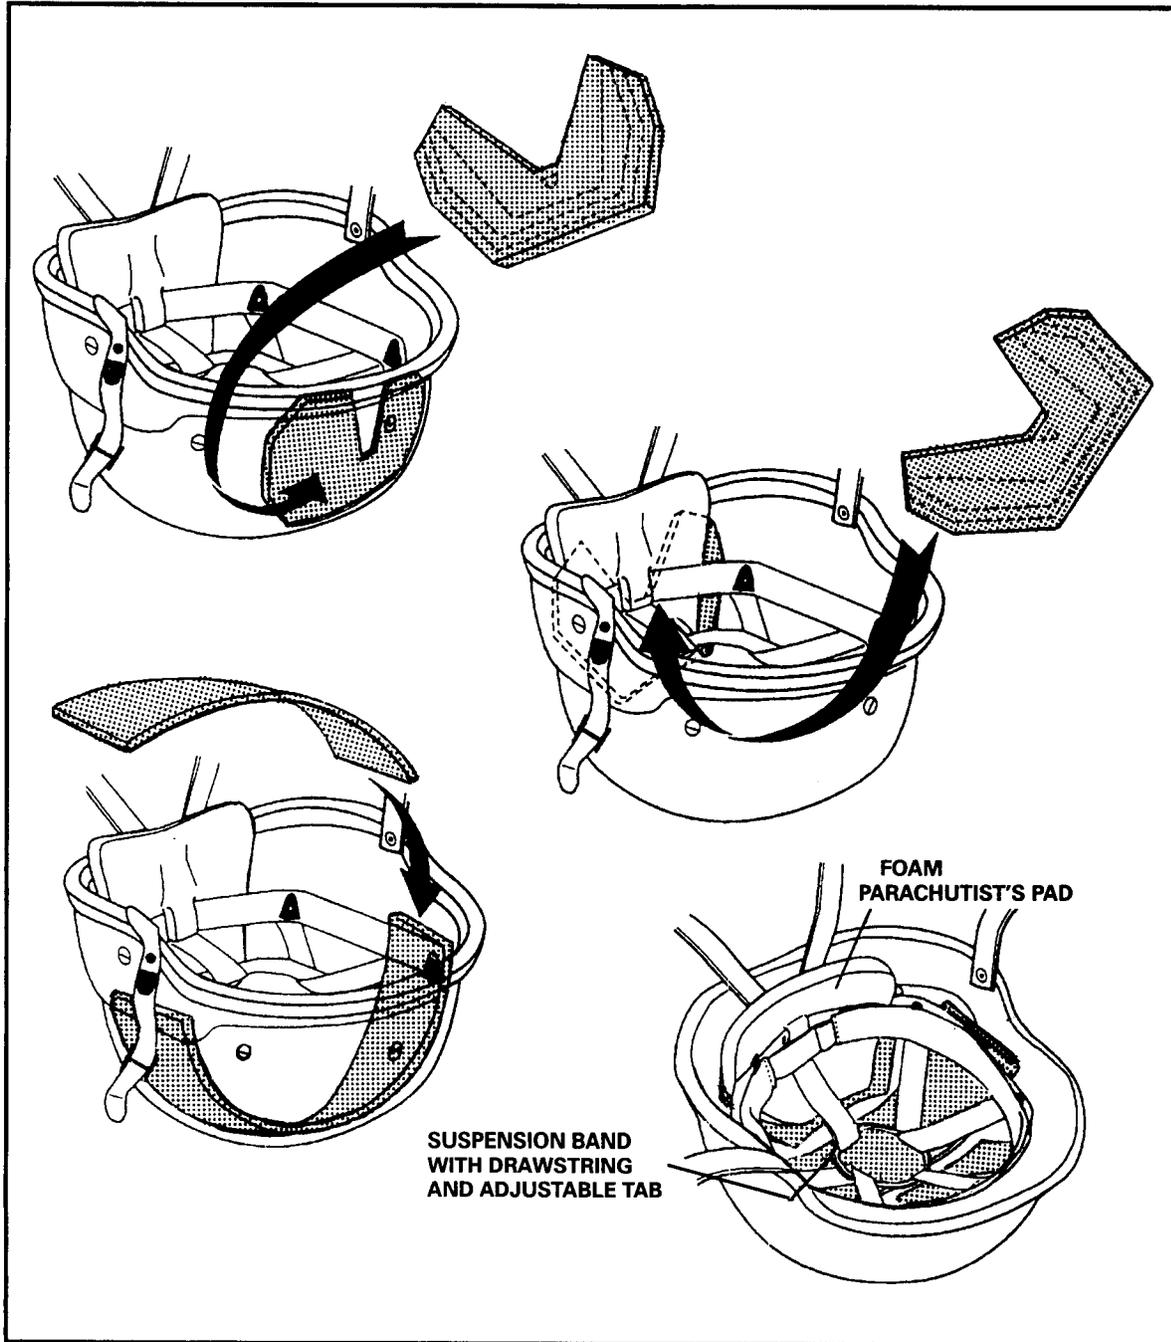

Figure 2-10. Installation of PIL.
(3) Place the insert portions into the helmet so that the front and back pieces are located under both the foam impact pad and the suspension band with drawstring and adjustable tab (Figure 2-10).